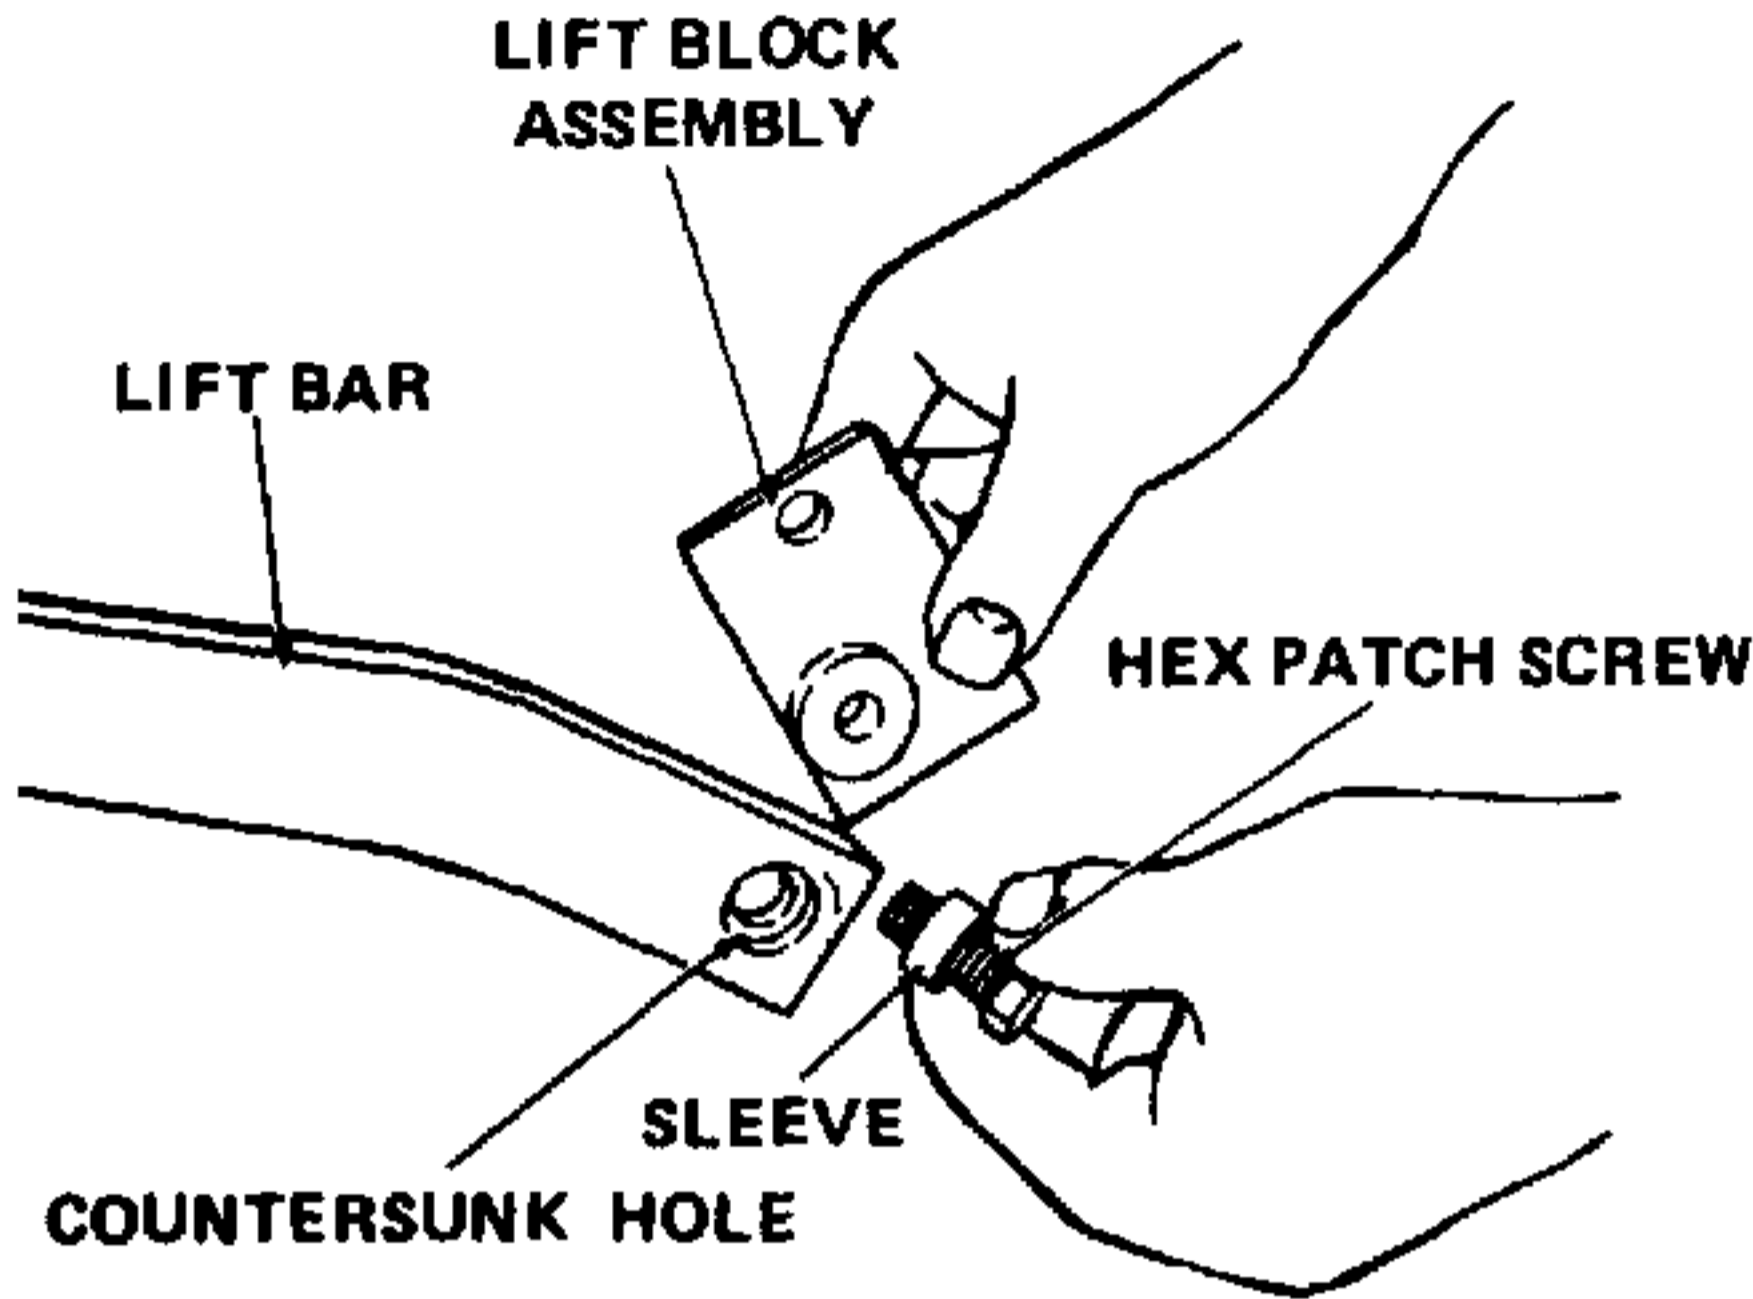

Figure 7-49. Installation of Lift Block Assembly on Lift Bar (Manual Lift Tractors).
- e. Lubricate countersunk hole in end of lift bar with 251H EP grease. Place sleeve (21, Figure 7-40) over hex patch screw (22) and insert through countersunk hole. Thread lift block assembly (11, Figure 7-41) onto hex patch screw until end is flush with lift block assembly. Refer to Figure 7-49.